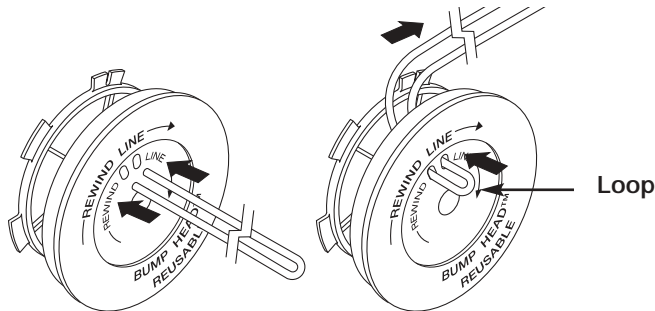

Fig. 16
- Take approximately 6 m (20 feet) of new trimming line, loop it into two equal lengths. Insert each end of the line through one of the two holes in the inner reel (Fig. 16). Pull the line through the inner reel so that the loop is as small as possible.